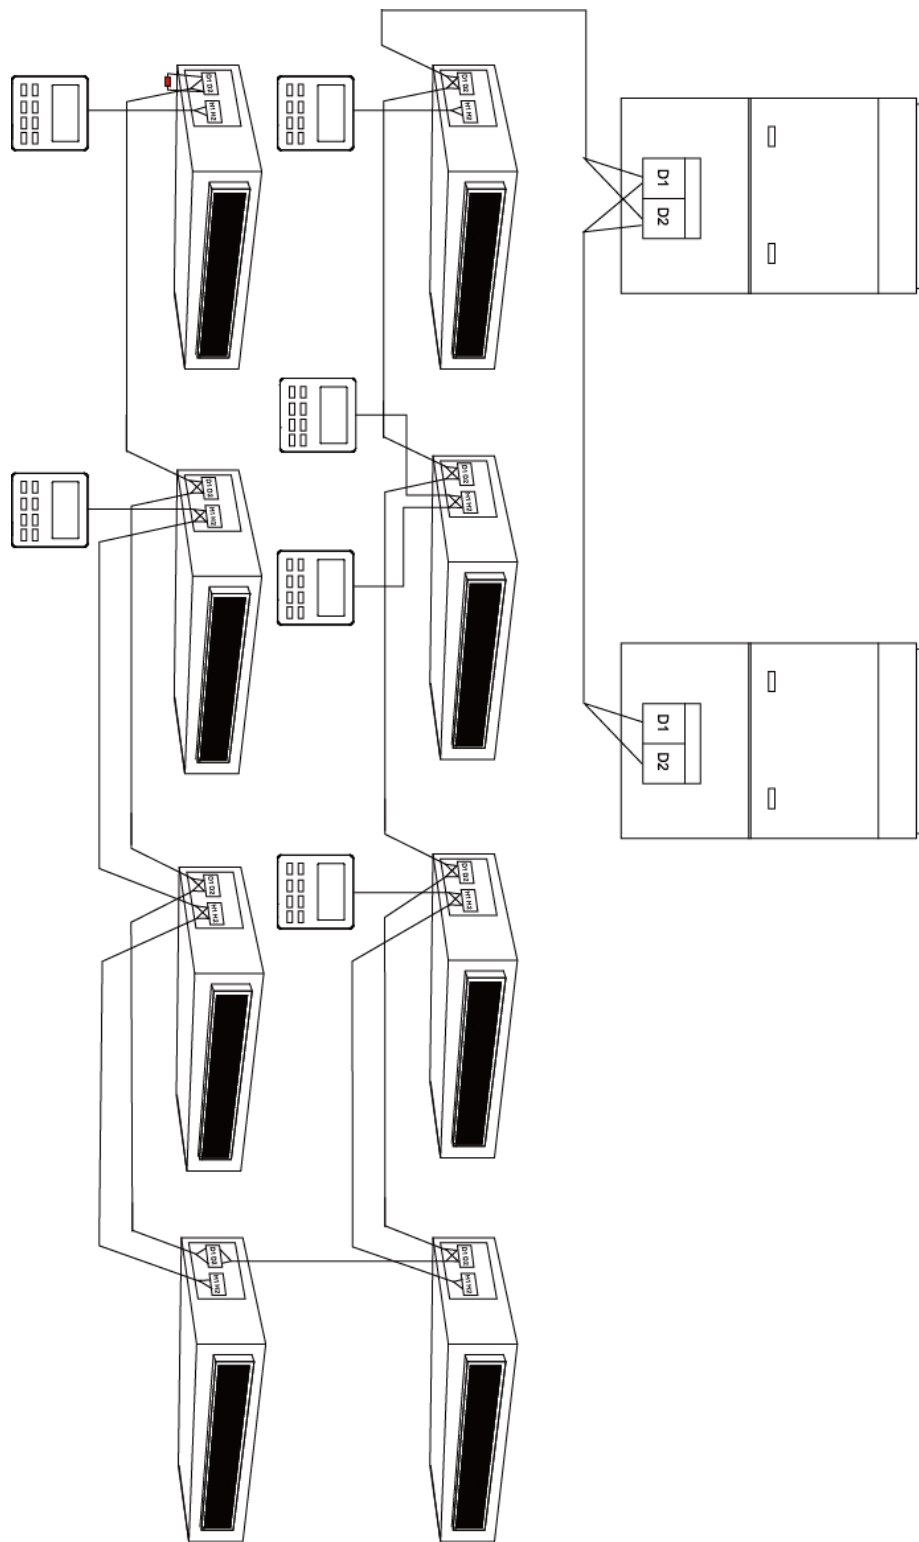

Fig.5.5
- (1) Communication wire of indoor unit and outdoor unit (or indoor unit) is connected to D1, D2.
- (2) Wired controller is connected to H1, H2.
- (3) One indoor unit can connect two wired controllers that must be set as master one and slave one.
- (4) One wired controller can control 16 indoor units in maximum at the same time (as shown in fig.5.5).